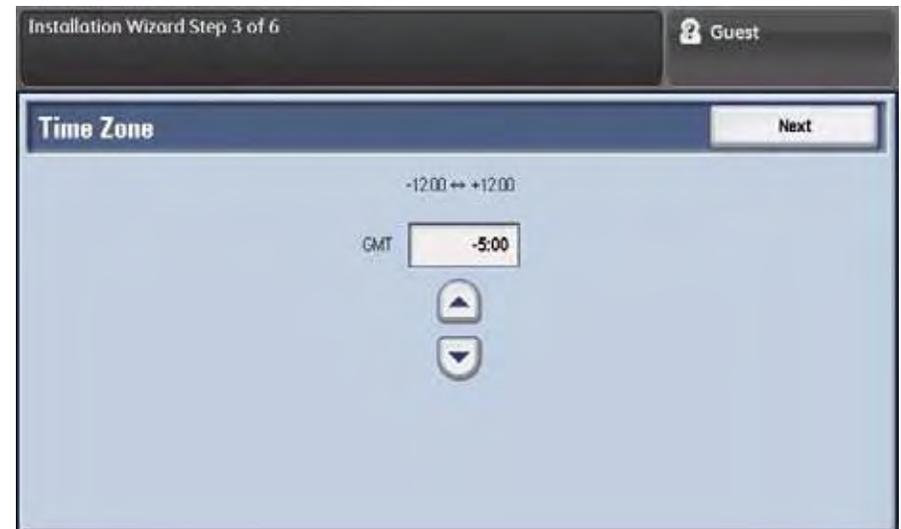

Figure 5 Time Zone screen
4. (Figure 5) The Time Zone screen displays next. Use the up/down arrows to scroll to the correct time zone. Then press **Next**.